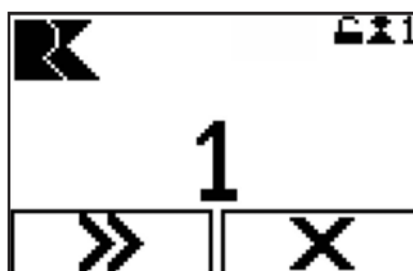

Figure 120 - Selecting memory positions
2. Select the memory position to be assumed (in this case: '1', Figure 120).